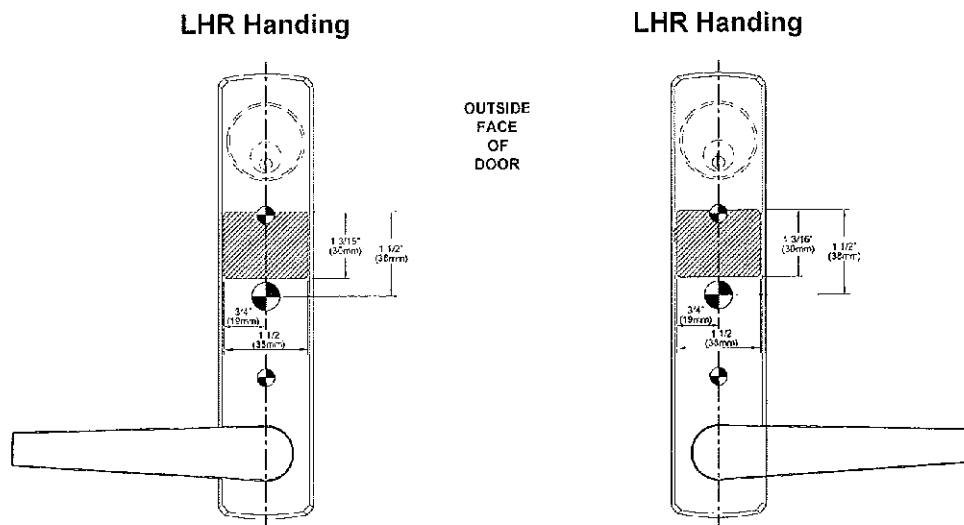

FIG. 1
2. Cut out one hole L 1-3/16" (30mm)xW 1 1/2" (38mm) as per trim template or figure 1 on the outside face of the door for clearance around the electric mechanism. See the oblique lines on the template.